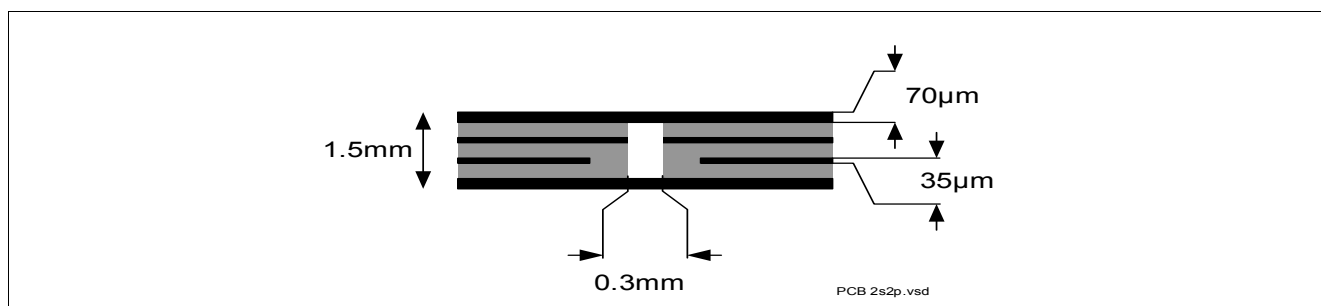

Figure 4 2s2p PCB Cross Section
2) Specified R_{thJA} value is according to JEDEC JESD51-2,-5,-7 at natural convection on FR4 2s2p board; The product (chip + package) was simulated on a 76.4 x 114.3 x 1.5 mm board with 2 inner copper layers (2 x 70µm Cu, 2 x 35 µm Cu). Where applicable, a thermal via array under the exposed pad contacts the first inner copper layer. Please refer to Figure 4.